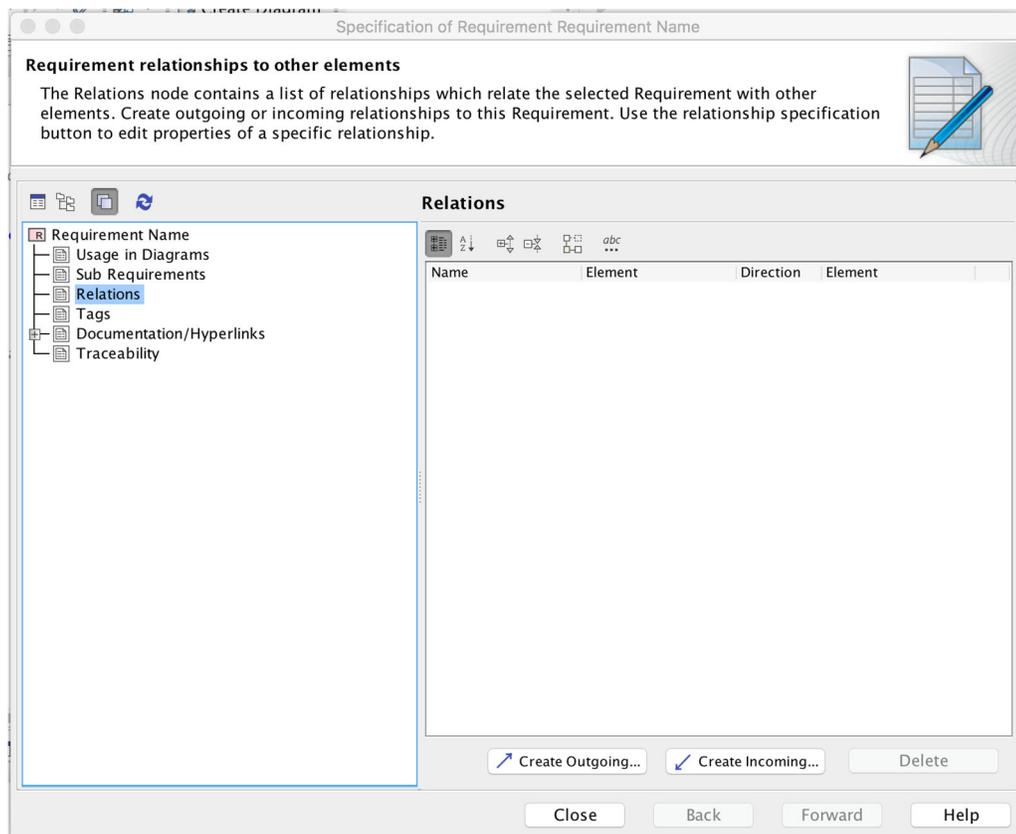
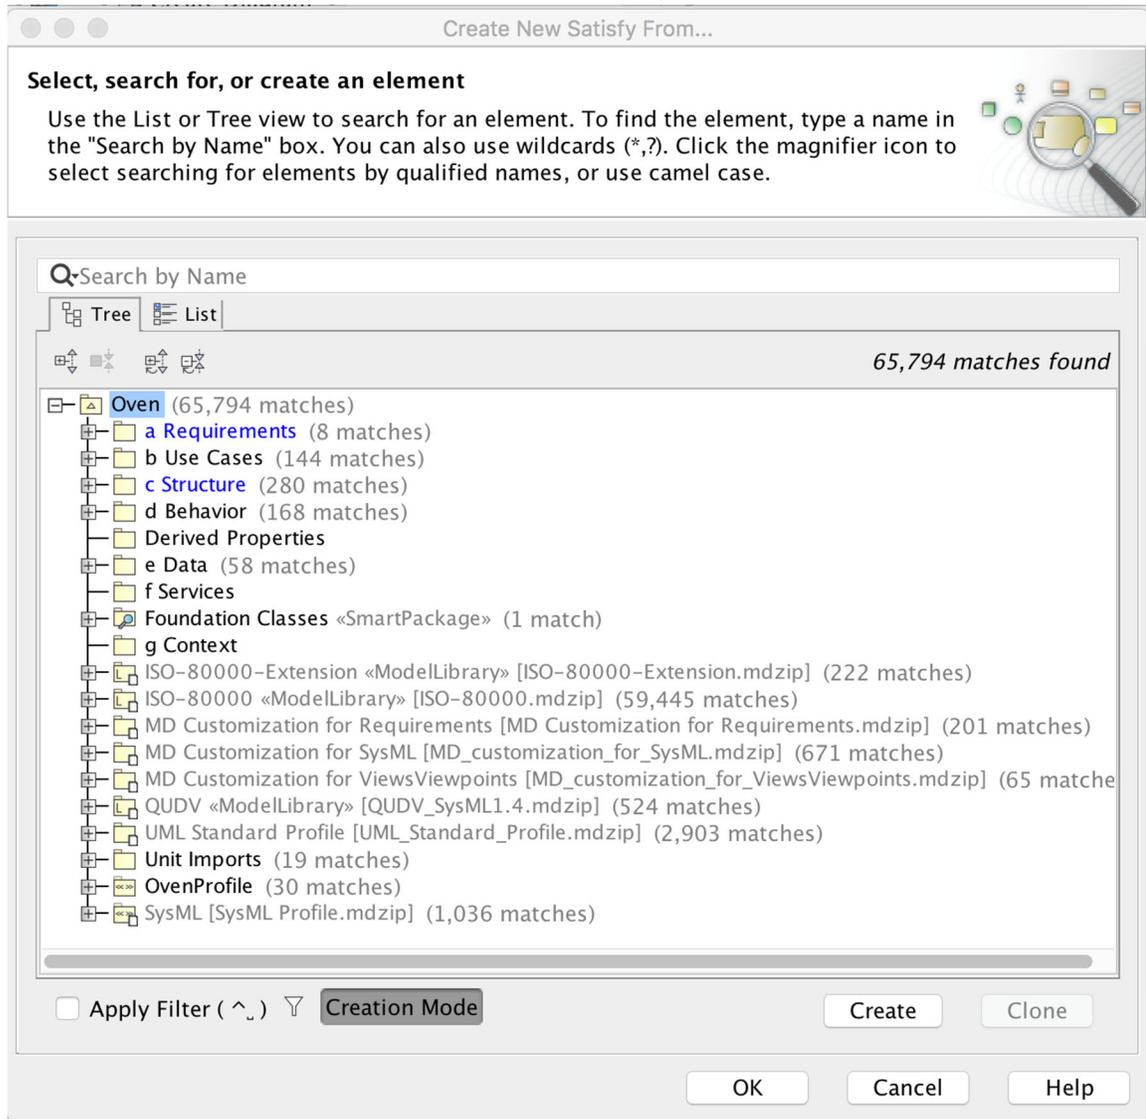

Figure 18. Relations Area of a Requirement Block Specification
Figure 19. Search Window for a New Satisfy Relationship
- The final step is to link requirements to the structural Blocks that satisfy them using Satisfy Dependencies. That's another reason to define these Blocks in BDDs before working on Requirements Diagrams, but you can always add this content later when the structure is defined. The easiest way to create these links is in the Requirements Block Specification. Open the Specification and select the Relations area. You get a window like Fig. 18. Click the Create Incoming button (a Satisfy Dependency points from the structural Block to the Requirement Block). From the list that opens, select Satisfies. You get a search window like Fig. 19, which is essentially the entire model structure. Expand the Structure Package and click the desired Block. The new Satisfy relationship (Dependency) appears in the Relations window. Click Close.